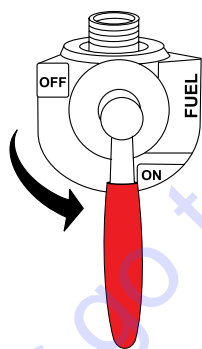

Figure 36. Fuel Tank Valve Lever (ON)
3. Return the fuel tank ON/OFF valve (Figure 36) to the ON position.